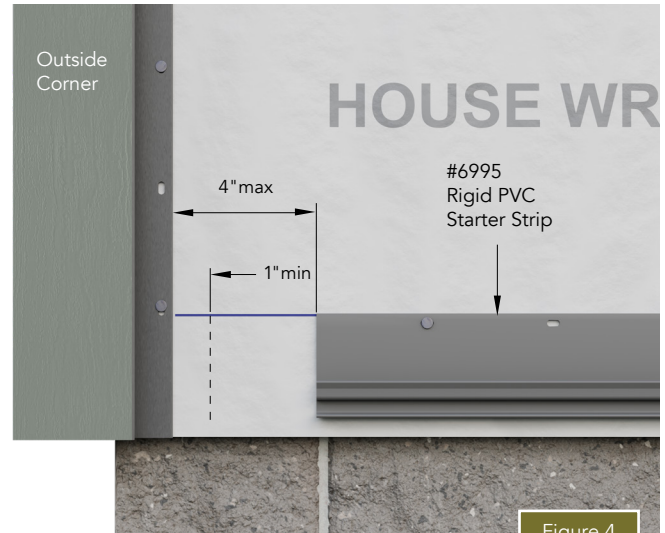

Figure 4
- Align the top of the Everlast starter strip on the level line. Leave a 1" to 4" gap from the end of the starter strip and trim nailing flange. Tightly fasten the starter strip to the wall. Everlast recommends to fasten the starter strip every other slot. Ends of starter strip should always be fastened (Figure 4).